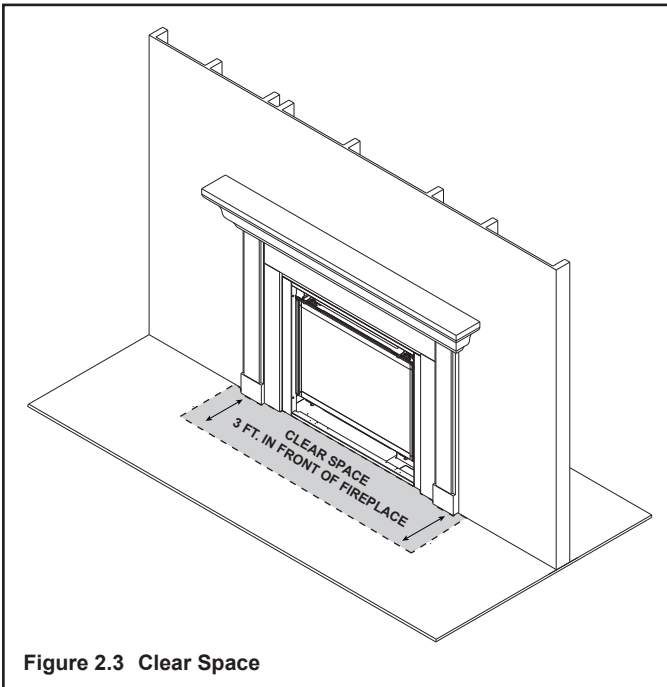

Figure 2.3 Clear Space
**WARNING! DO NOT** place combustible objects in front of the fireplace or block louvers. High temperatures may start a fire. See Figure 2.3.